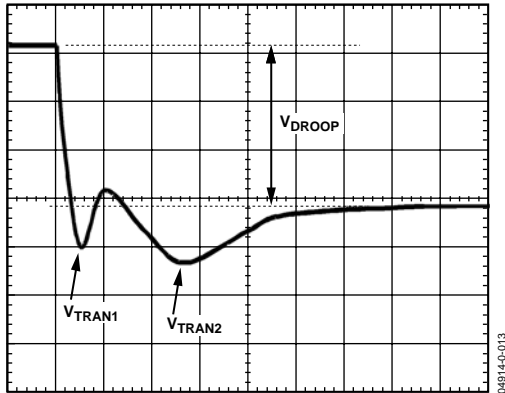
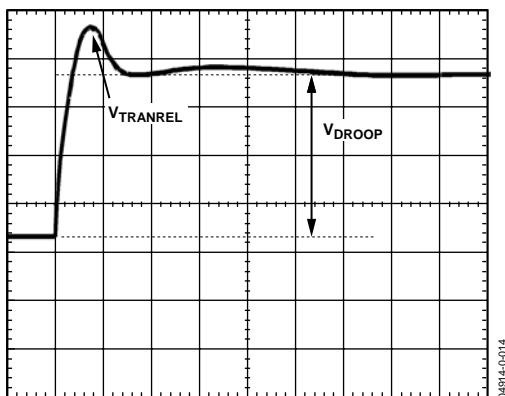

Figure 13. Transient Setting Waveform
Figure 14. Transient Setting Waveform
- With the dynamic load still set at the maximum step size, expand the scope time scale to see  $2\ \mu\text{s}/\text{div}$  to  $5\ \mu\text{s}/\text{div}$ . The waveform may have two overshoots and one minor undershoot (see Figure 13). Here,  $V_{\text{DROOP}}$  is the final desired value.
- For load release (see Figure 14), if  $V_{\text{TRANREL}}$  is larger than  $V_{\text{TRAN1}}$  (see Figure 13), there is not enough output capacitance. You need more capacitance or you have to make the inductor values smaller. (If you change inductors, you need to start the design again using the spreadsheet and this tuning procedure.)